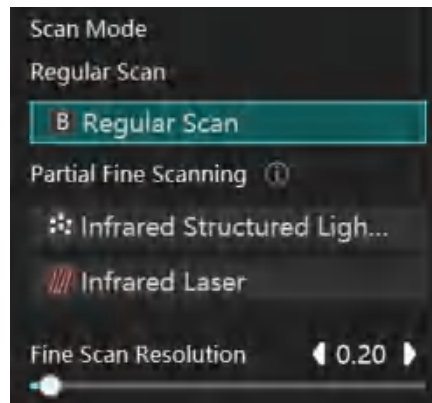

Figure 7-18 Parameters of Partial Fine Scanning
2. In far-distance scanning, the left control panel provides two scan mode options in the "Scan Mode" column, which is shown in Figure 7-18: